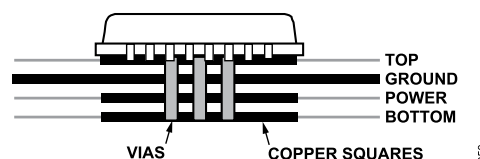

Figure 64. Exposed Pad Layout Example, Side View
- ▶ A copper layer equal in size to the exposed pad should be on all layers of the board, from top to bottom, and should connect somewhere to a dedicated copper board layer (see Figure 64).